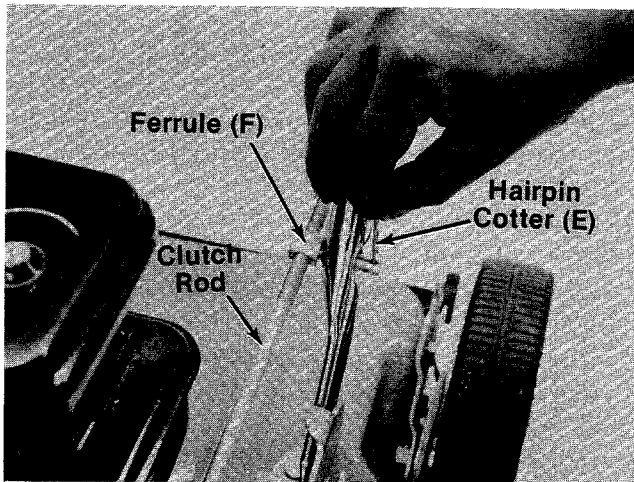

FIGURE 10.
16. Thread the clutch rod into the ferrule (F) until the ferrule lines up with the hole in the lower handle. Secure ferrule in handle with cotter pin (E) as shown in figure 10. Check for 1/8" clearance between drive pinion and front wheels. See **clutch rod adjustment** on page 10.
1. Remove the cotter pin. See figure 10.